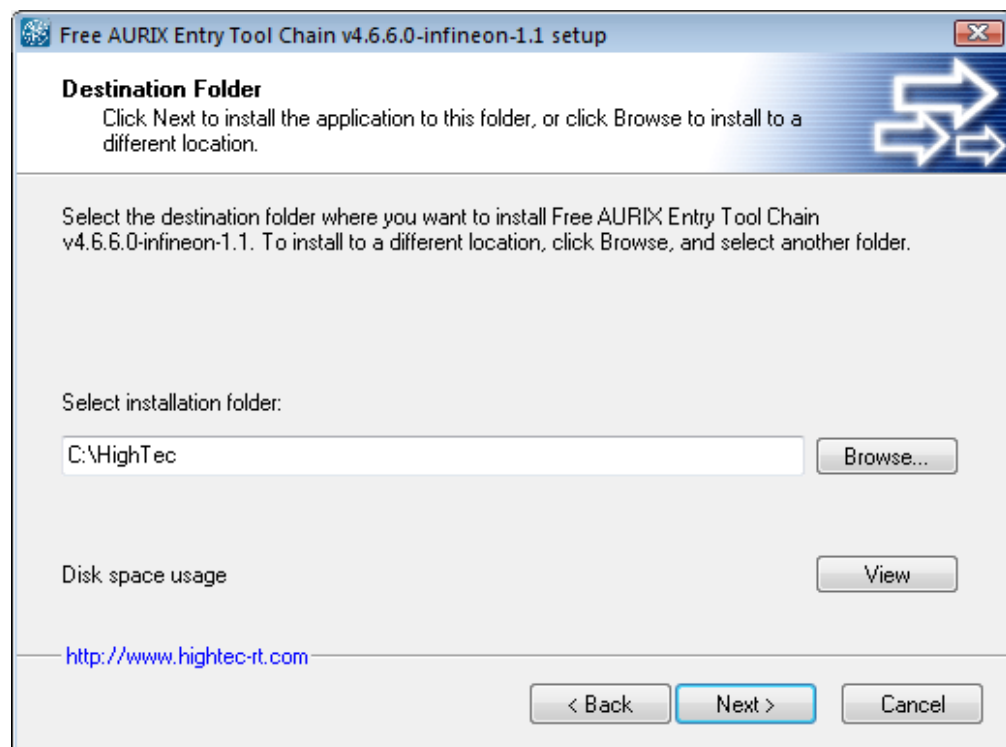

Figure 4 TriCore Free Entry Tool Chain Setup folder dialog
4. Click **Next** button. The dialog for selecting the installation directory appears (Figure 4). Use the default or select another installation directory.